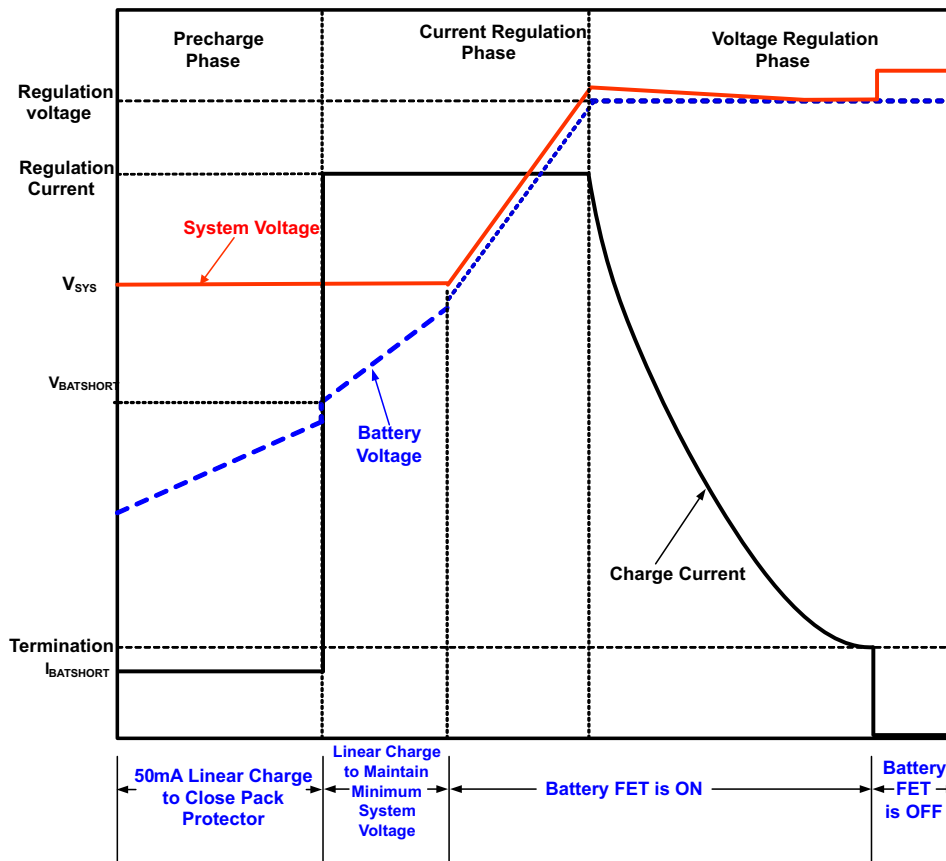

Figure 2. Typical Charging Profile of bq24278
Charging is done through the internal battery MOSFET. When the battery voltage is above 3.5V, the system output (SYS) is connected to the battery to maximize the charging efficiency. There are 5 loops that influence the charge current; constant current loop (CC), constant voltage loop (CV), thermal regulation loop, minimum system voltage loop (MINSYS) and input voltage dynamic power management loop (V_{IN-DPM}). During the charging process, all five loops are enabled and the dominant one takes control. The bq24278 supports a precision Li-Ion or Li-Polymer charging system for single-cell applications. The minimum system output feature regulates the system voltage to a minimum of $V_{SYS(REG)}$, so that startup is enabled even for a missing or deeply discharged battery. Figure 2 shows a typical charge profile including the minimum system output voltage feature.
The charge current is regulated to I_{CHARGE} until the battery is charged to the regulation voltage. Once the battery voltage is close to the regulation voltage, $V_{BAT(REG)}$, the charge current is tapered down as shown in Figure 2 while the SYS output remains connected to the battery. The voltage regulation feedback occurs by monitoring the battery-pack voltage between the BAT and PGND pins.